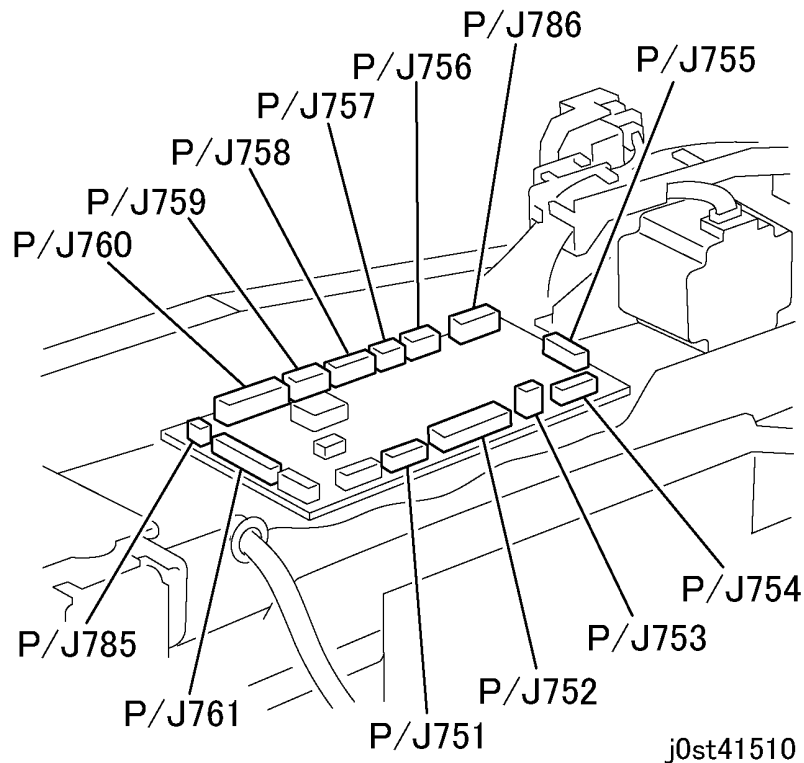

Figure 1 Disconnecting the DADF PWB connectors (j0st41510)
2. Disconnect the DADF PWB connectors. (Figure 1)